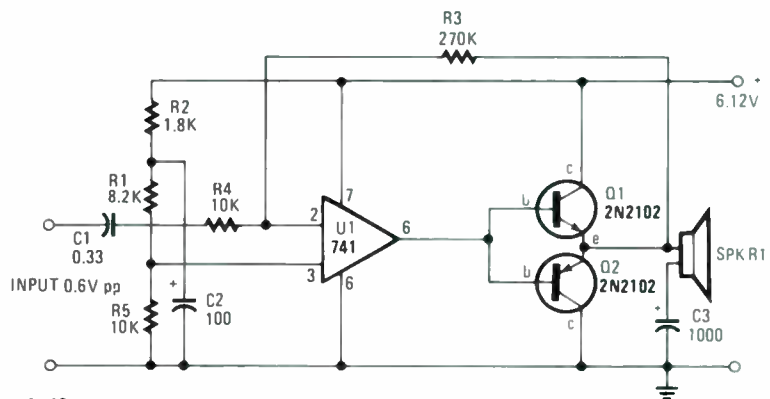

FIG. 13
H.R., of Spokane, WA, asks about a small amplifier that can convert a transistor radio from earphone to loudspeaker operation. The schematic diagram in Fig. 13 describes an amplifier with more than sufficient drive. The amplifier boasts 0.6 volts input sensitivity, and the output transistors should be matched and have a high current gain. Harmonic distortion is in the neighborhood of 0.3% for 1 kilohertz, and that's a pretty-nice neighborhood. After you build this unit, connect the inputs to a suitable plug so it can connect easily to your transistor radio, and control the volume with the radio's volume control. I think you'll like this one!